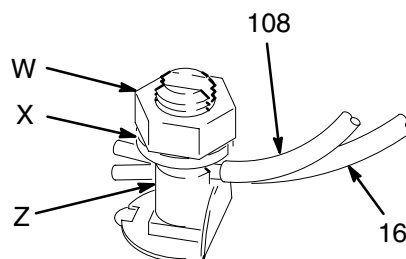

Fig. 4
5. *Agitator*: use the ground wire and clamp (108, supplied). See Fig. 4. Loosen the grounding lug locknut (W) and washer (X). Insert one end of the ground wire (108) into the slot in lug (Z) and tighten the locknut securely. Connect the ground clamp to a true earth ground.
6. *Suction hose*: attach the hose (16) ground wire to the ground lug on the agitator. See Fig. 4. If you are not using an agitator, attach the wire to the fluid supply container.